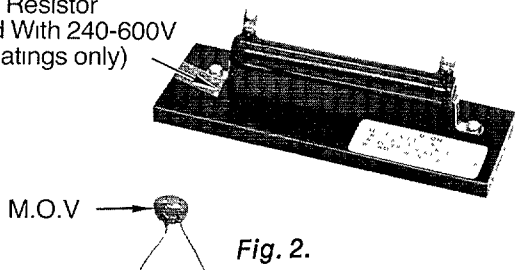
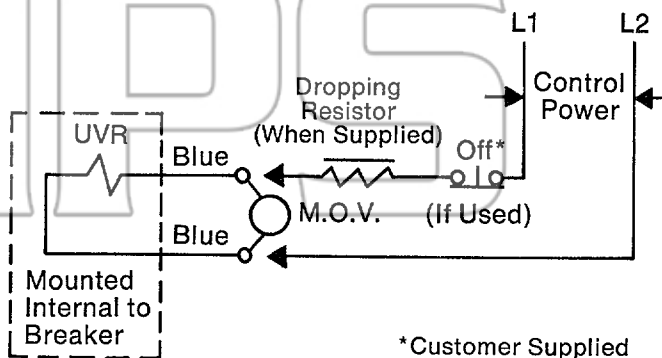

Fig. 2.
Fig. 3. Wiring Diagram
- Mount the dropping register (when supplied) and M.O.V. (Fig. 2). Wire as shown in Fig. 3.